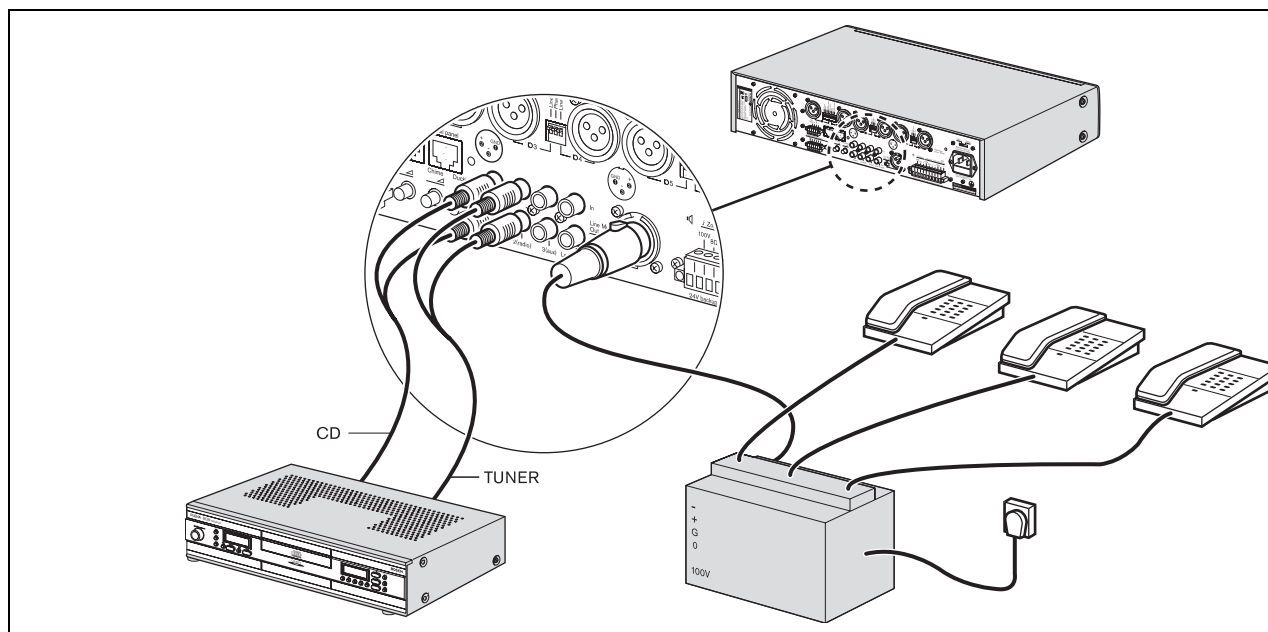

figure 4.9: Connecting music source inputs
Use the music master output connector (24) to provide a dedicated music out source for another device. For example, the music master output can be connected to a telephone coupler, so that callers can listen to music when they are put on hold (see figure 4.9).
Use the Pre-out, amp in insert (22) external sound processing equipment (e.g. an equalizer or Plena feedback suppressor) to be connected between the preamplifier and the power amplifier stages. See figure 4.9.